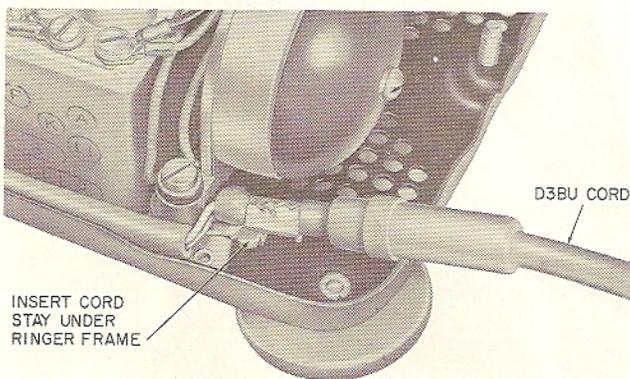

Fig. 13 — Installing Extra Length Cord
- (1) Remove ringer mounting screw (Fig. 13).
- (2) Insert cord stay under ringer frame.
- (3) Reinsert mounting screw.
- (4) Position cord grommet so that cord is protected where it enters set.